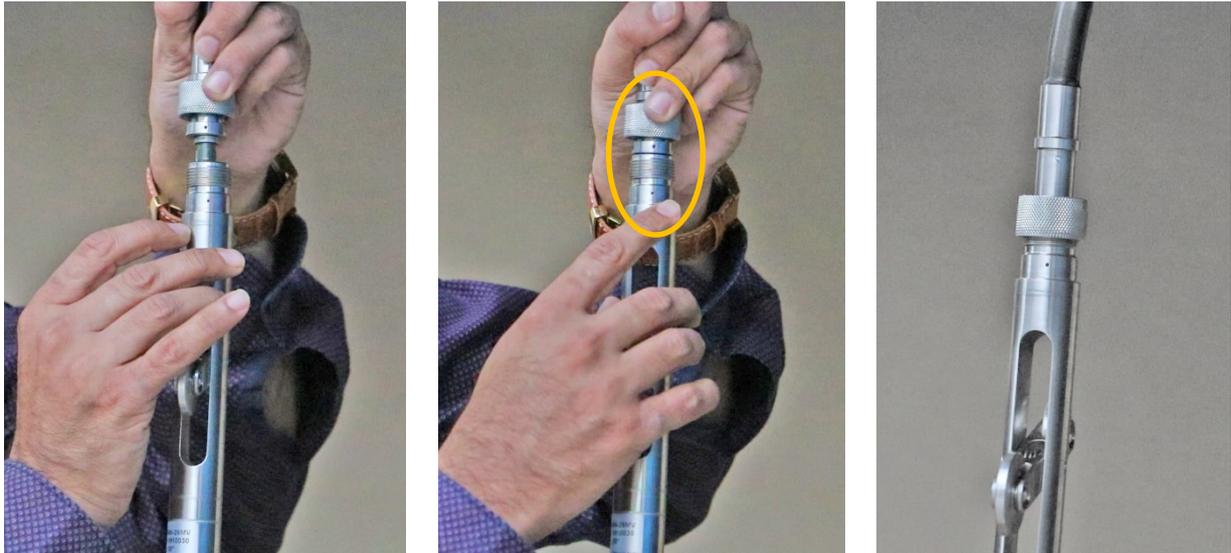

Figure 4-1 Connecting probe to cable reel
- d. While connecting the probe to the cable reel, ensure that the red dot marks on the connector and probe are aligned properly. Refer to the figure 4-1 and 4-2. A caution sticker is also provided on the probe for the same.